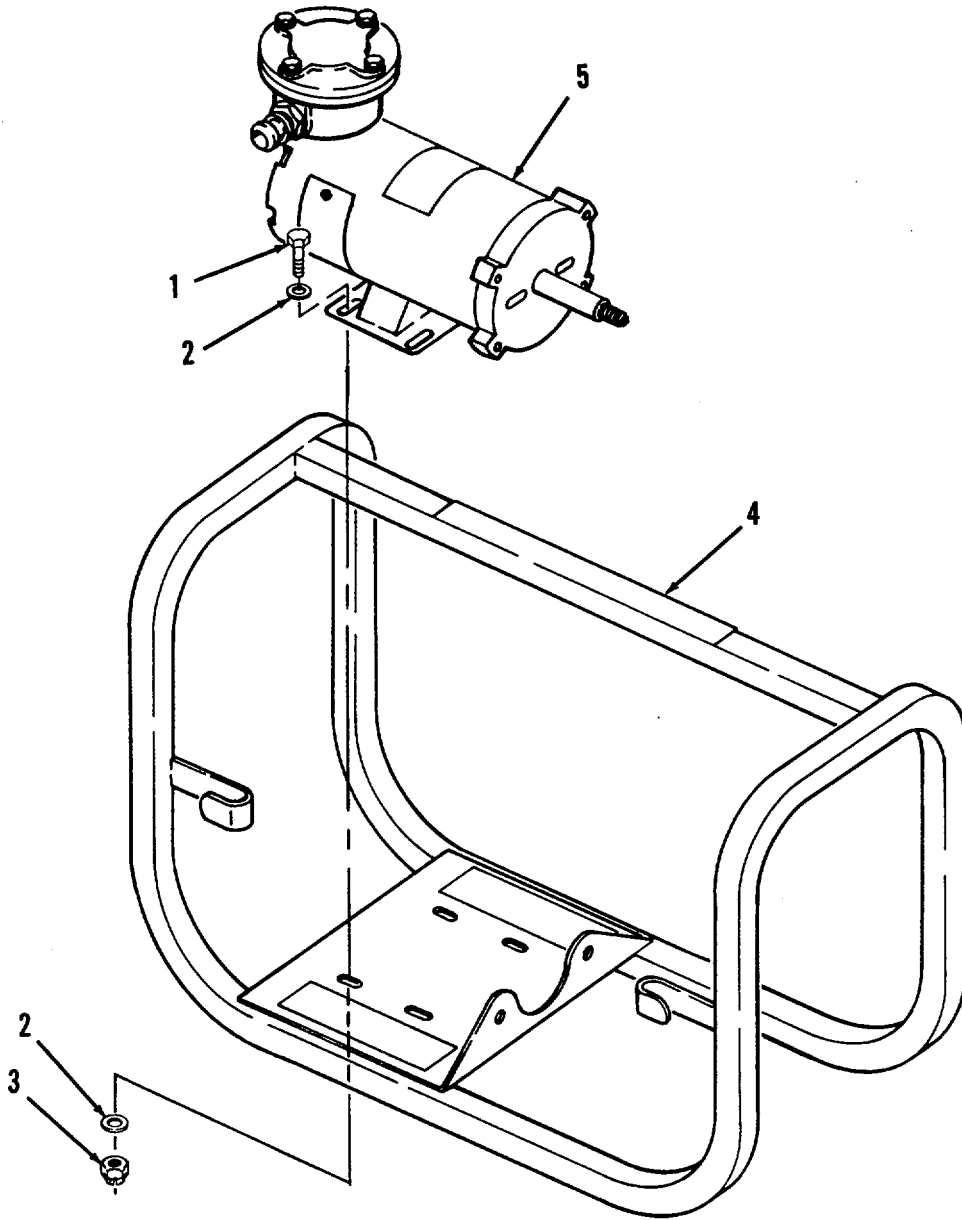

Figure 5-3. Motor Assembly Replacement.
**a. Removal.** (Refer to Figure 5-3).
- (1) Remove four bolts (1), eight flat washers (2), and four lock nuts (3). Discard lock nuts.
- (2) Remove motor (4) from frame (5).